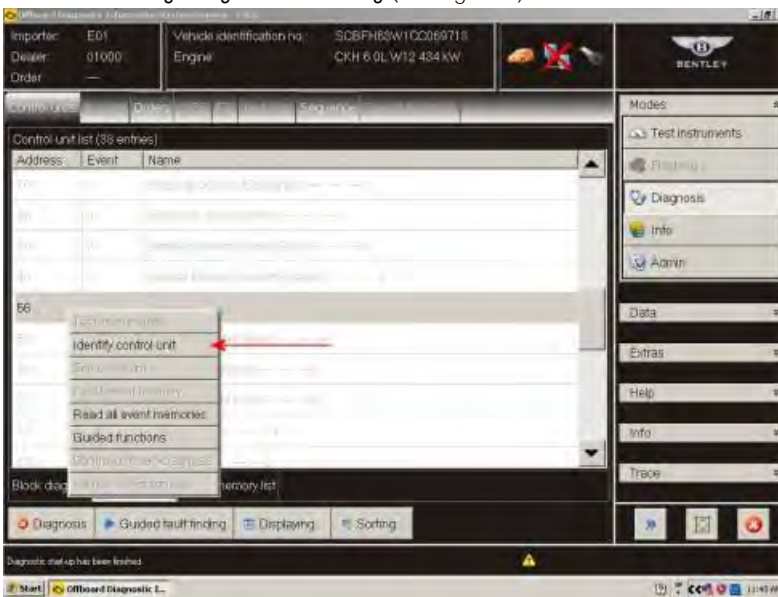

Figure 2
- In Control units select 56 – Radio. Touch, hold then release the selected box to reveal drop down menu then select *Identify control unit* (see Figure 2)